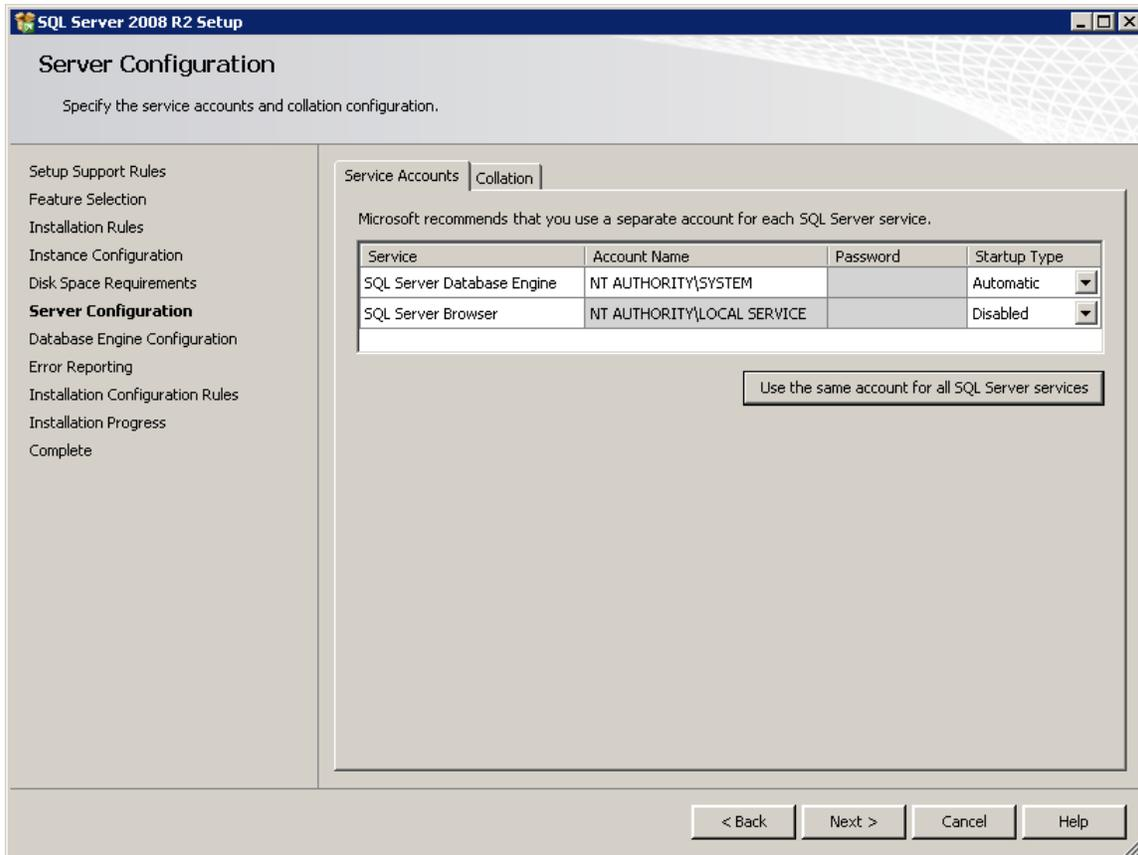

Figure 2-6 SQL Server 2008 R2 Setup – Server Configuration
12. *Server Configuration*: For the *SQL Server Database Engine* service, select *NT AUTHORITY\SYSTEM* in the *Account Name* field. Select *Automatic* in the *Startup Type* drop-down menu (Figure 2-6). Click the *Next* button.